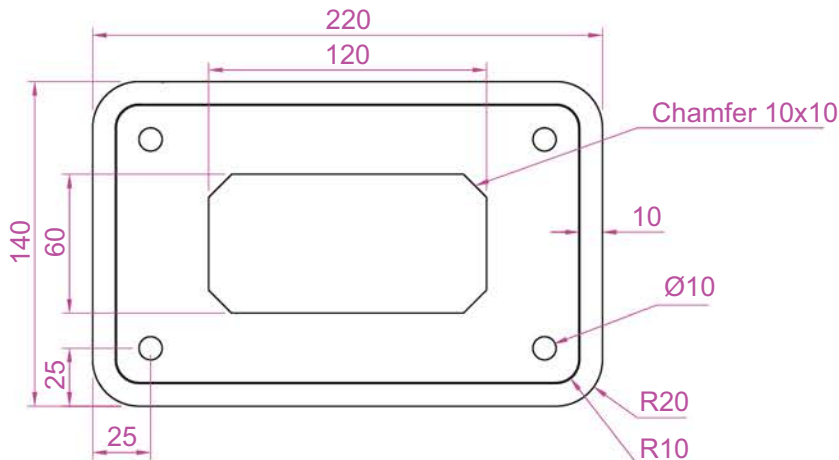

Fig. 12.31 Exercise 2
2. Construct the drawing Fig. 12.31 but, in place of the given dimensions, add dimensions showing tolerances of 0.25 above and below.